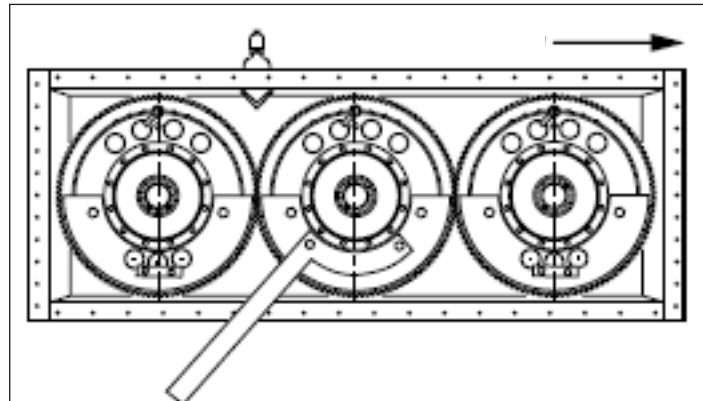

Figure 9.66 - Bolt Timing Wrench to Center Disc
7. When disc swings free of gear and comes to rest, remove two counterweight bolts and use them to bolt timing wrench to disc. Install the timing wrench so the handle points toward the feed end of screen, Ref: Figure 9.66.
3. Undo the bolts (Item 1, Ref: Figure 9.66) securing the drive side of the screen box flywheel cover and remove it to get access to the drive belt. There are 4 bolts to be removed.